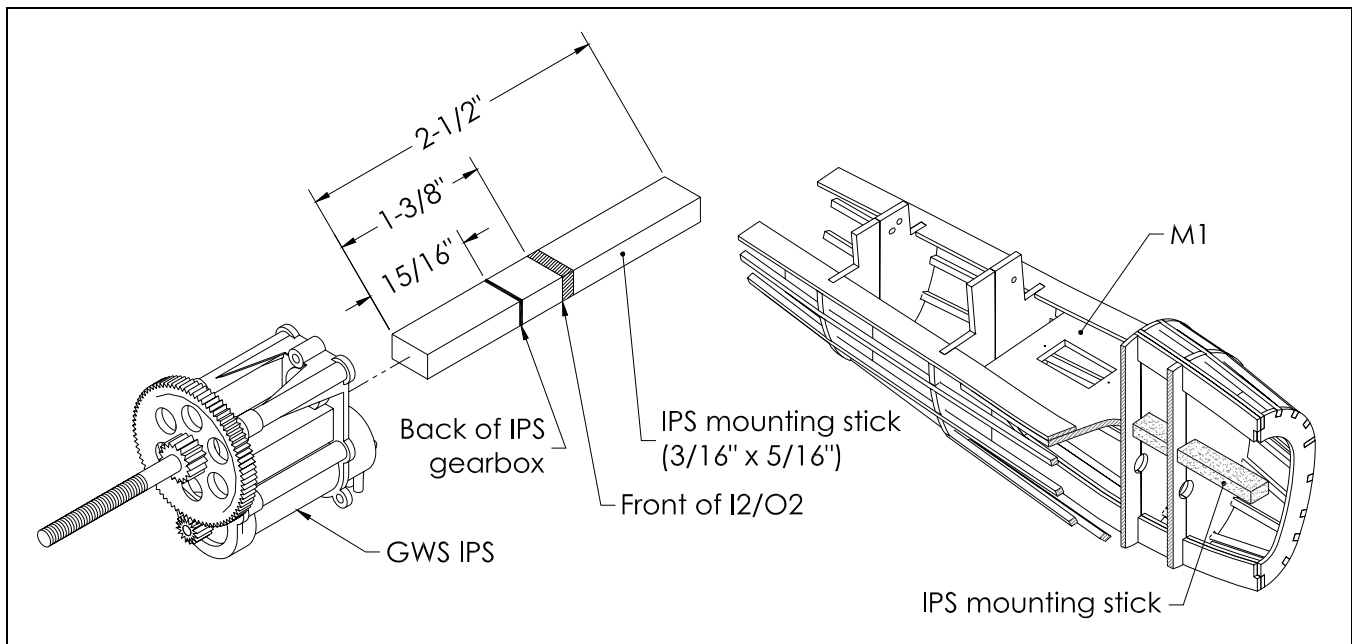

Figure 8
- ❑ Find the **3/16" x 5/16" IPS mounting stick** in the kit and cut it to the length shown in Figure 8.
- ❑ Using a pencil, place marks on the mounting stick as shown in Figure 8. Make sure the GWS IPS gearbox will slide over the mounting stick as far as it will go before gluing it to the boom. The back of the gearbox should end up very close to the line drawn at 15/16".
- ❑ Glue servo mount **M1** to **K8**, **K9**, and **I3/O3** as shown in Figure 8. Sand the boom to eliminate uneven rough wood surfaces and excess dried glue. At this point the boom is complete.